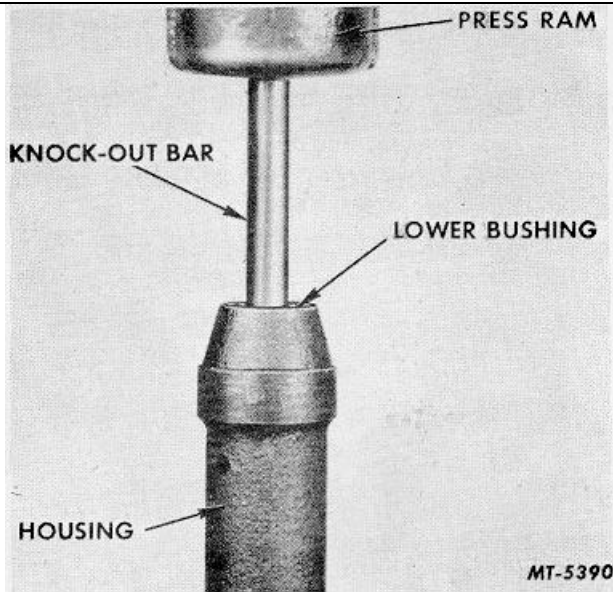

Fig. 46 Pressing Out Upper Bushing Using Knock-Out Bar
2. Place distributor housing on press bed and insert knock-out bar (make locally from cold rolled stock 7/16" diameter x 11" long) and press out upper bushing (Fig. 46).